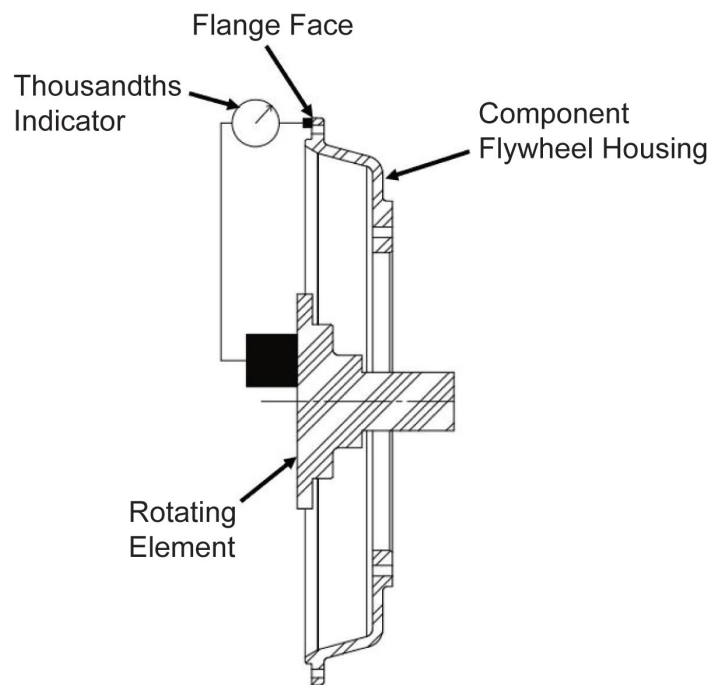

Figure 9. Checking Mating Driven Component Housing Face Runout
1. Bolt a thousandths (.001 in) increment dial indicator or gauge to the rotating element of the component that is to be driven by the gear box flywheel output. Position the indicator stem such that it is perpendicular to and is riding on the flywheel housing flange face. See Figure 9.